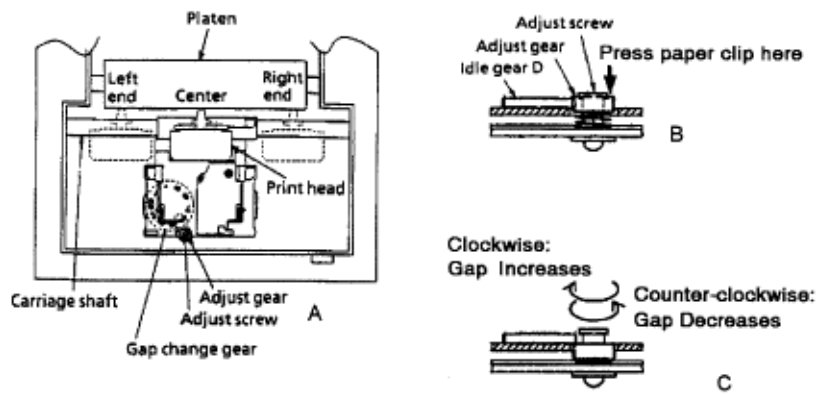

Figure 1
4. Set the gap change gear (Figure 1 A) to Range 2 by turning the adjust screw using a small phillips screwdriver. Turn this screw slowly while moving the carriage (1) to the left (if turning the screw counter clockwise) or (2) to the right (if turning the screw clockwise). This will allow easier rotation of the gears and prevent the gears from being stripped.
8. Use a large, straightened paper clip (Figure 1 B) to push down on the adjust gear. This will disengage the adjust gear from idle gear D.
9. Use a small phillips screwdriver to turn the adjust screw. (Figure 1 C)